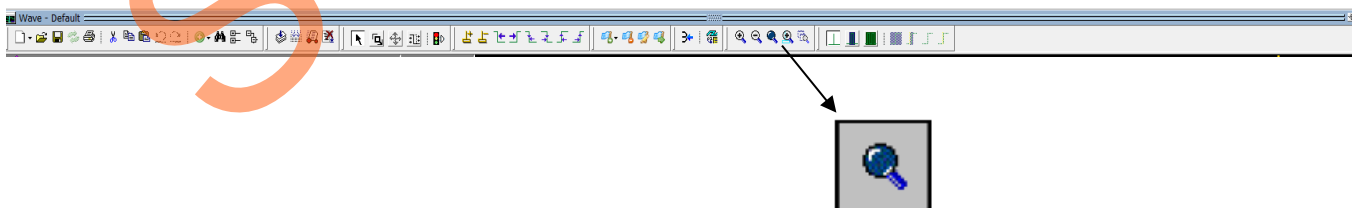

Figure 37. Zoom Full Button
2. Click the **Zoom Full** button to fit all the waveforms in the single view (Figure 37).